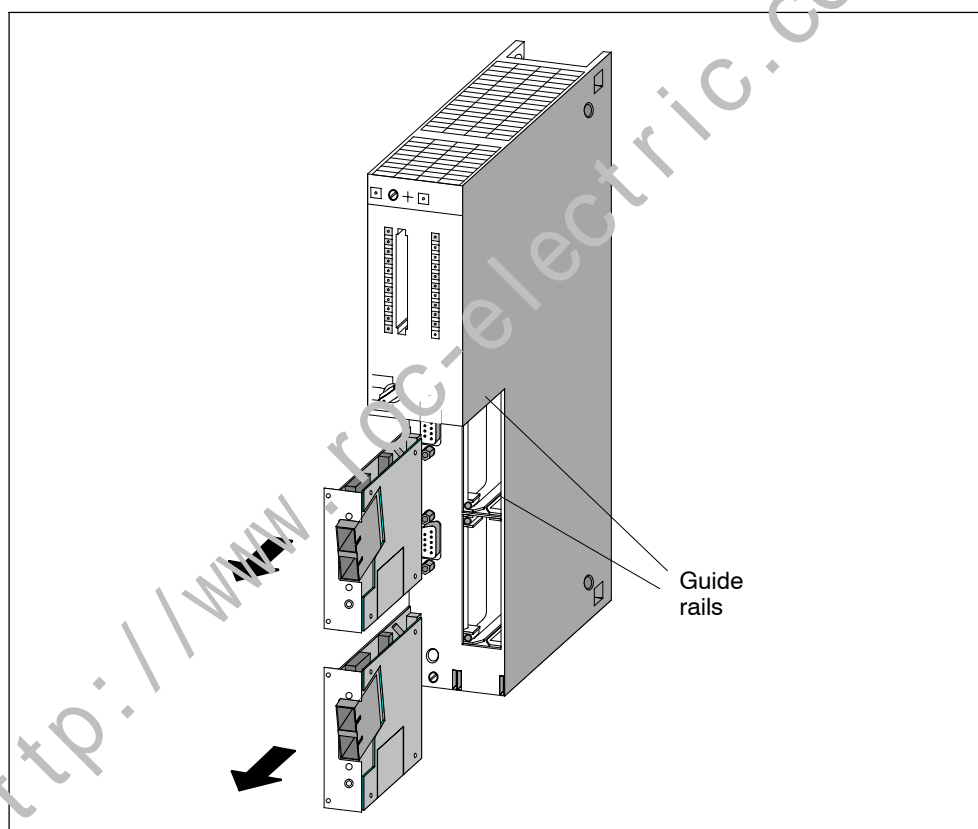

Figure 7-1 Inserting an Interface Submodule in a CPU
5. Carefully remove the interface submodule from the guide support of the card slot (see figure 7-1). Hold the interface module on the long sides of the front plate.